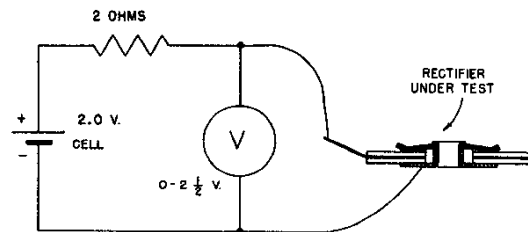

Fig. 2. Rectifier Test Circuit
**Testing the individual rectifier discs.** Two rectifier assemblies are used in the receiver, each assembly consisting of two rectifier discs held together by an eyelet. A cross section of a rectifier assembly is shown in Fig. 2. The center plate of the assembly is positive and is provided with a soldering tab. A copper-oxide rectifier disc is located on each side of the center plate. The rectifier disc conducts when the positive potential is applied to the copper-oxide surface. The copper oxide is a dark purple coating which has been plated with nickel to afford a good surface contact to the copper oxide. If either or both of the rectifier discs in an assembly become defective, the entire assembly should be replaced.
To check the rectifier assembly, the following tests are recommended. In the conducting direction, the rectifier assembly should pass 0.5 ampere or more when  $\frac{1}{2}$  volt is impressed across it. If a d-c ammeter is not available for measuring currents as high as 0.65 ampere, the circuit shown in Fig. 2 can be used for this check. The 2.00-ohm resistance should be fairly accurate. The voltage across the rectifier assembly should read 0.7 volt or less; if this voltage exceeds 0.7 volt, the assembly is defective and should be replaced.